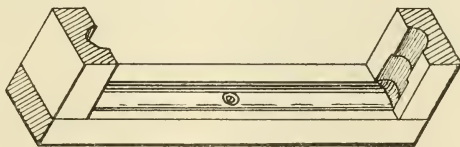

FIG. 88.—SUPPORT FOR GLASS TUBES.
11. Boring the screw holes and pivot hole. — The uprights are to be fastened to the crosspiece, as in Fig. 88, with screws from the under side, two screws in each end. In the center of the crosspiece and at the bottom of the groove bore a hole the size of the pivot screw, and countersink.